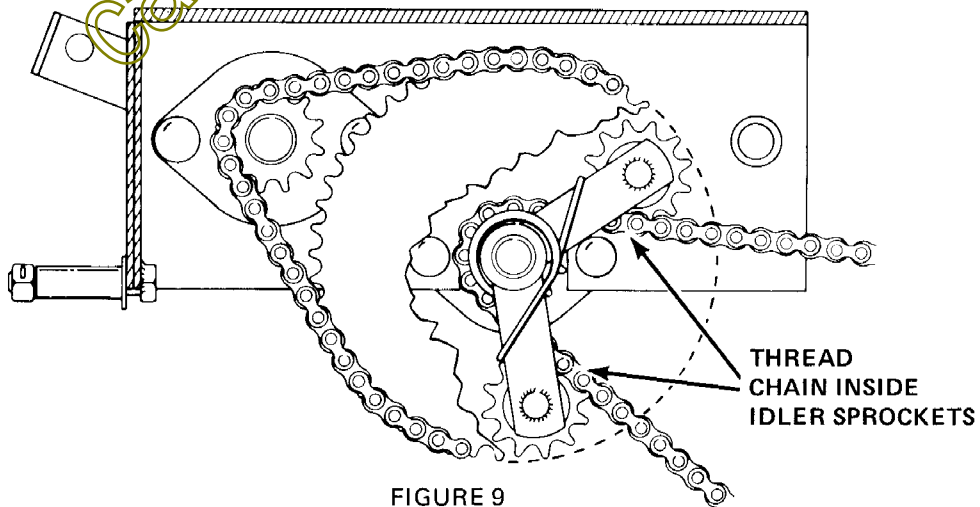

FIGURE 9
7. Install chain with connector link inboard and closed end of link facing forward direction. See Figure 9.